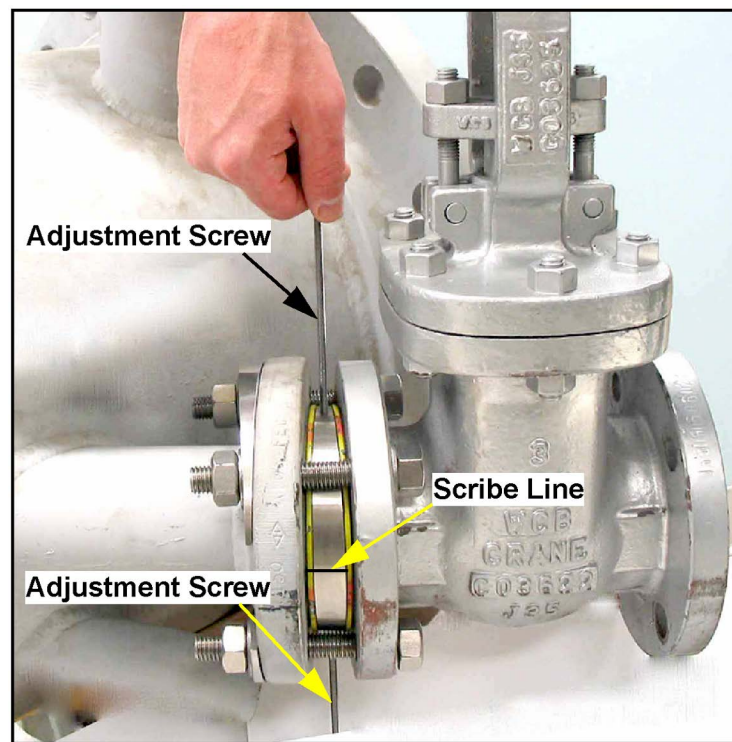

Figure 6: Adjusting the Wedge Position
5. Insert the two adjustment screws into the threaded holes on the 6° wedge (see *Figure 6 below*) and use them to rotate the wedge until the scribe line is centered between the two bolts.